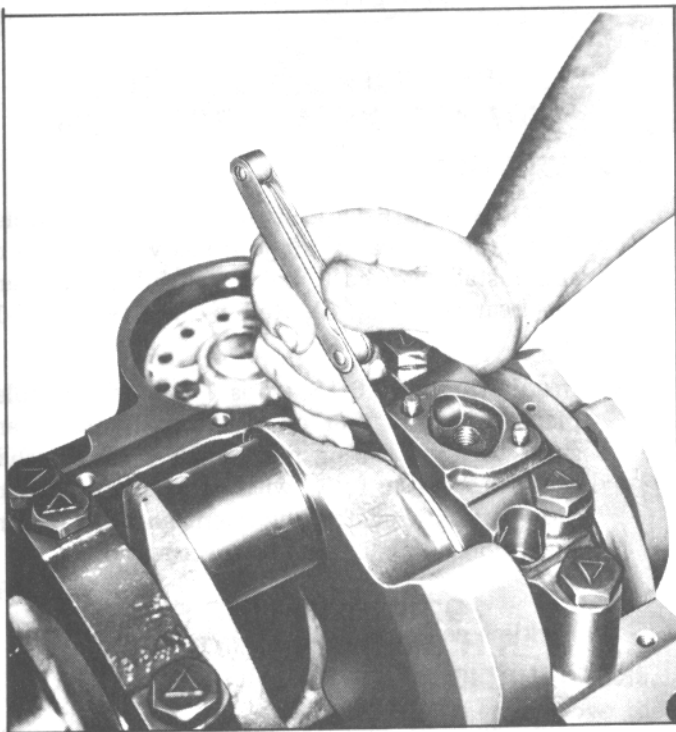

Fig. 57. Measuring Crankshaft End Play
8. Measure crankshaft end play with a feeler gauge. Force crankshaft forward and measure clearance between the front of the rear main bearing and the crankshaft thrust surface (Refer to Fig. 57).